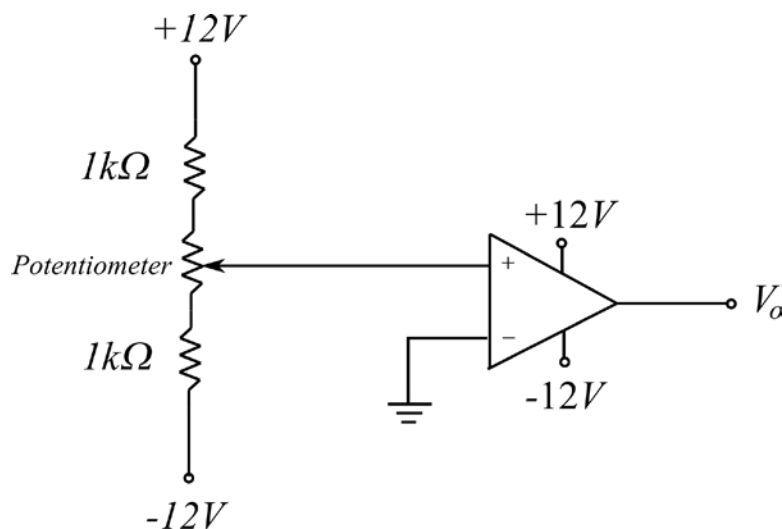

Figure 4: Noninverting comparator test circuit.
4. Turn off the power and change the circuit to that of Figure 4. Turn on the power and slowly change the input potentiometer and observe the output state change with your scope.